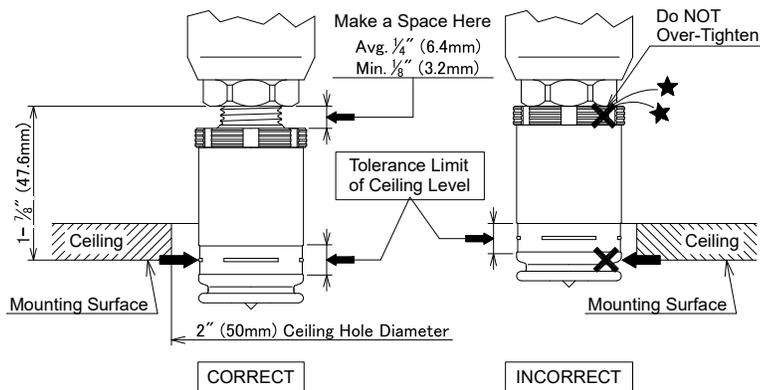

Figure 3: Installation
Step 1: The installation requirements for the sprinkler are as follows: to be installed only in the pendent position with the waterway perpendicular to the ceiling. Install the sprinkler fitting so that the distance from the face of the fitting to the mounting surface will be nominally 1- 7/8 inch (47.6 mm) as shown in Figure 3.
Step 3: If desired the Protective Cap may also be used to locate the center of the clearance hole by gently pushing the ceiling material against the center point of the Protective Cap. Before the installation of the ceiling, the sprinkler installation can be started with the 2 inch (50 mm) diameter clearance hole (Ref. Figure 3). Use the "Tolerance Limit of Ceiling Level" indicator on the Protective Cap to check for proper installation height (Ref. Figure 3).